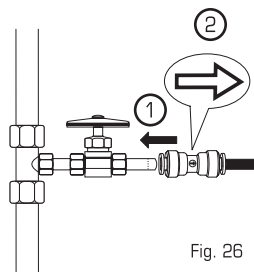

Fig. 26
7. Connect the tube from the cold water supply to the screen side of the Supply Connector on Pressure Regulator Assembly ①. Arrow in balloon shows water flow direction ② (Fig. 26).